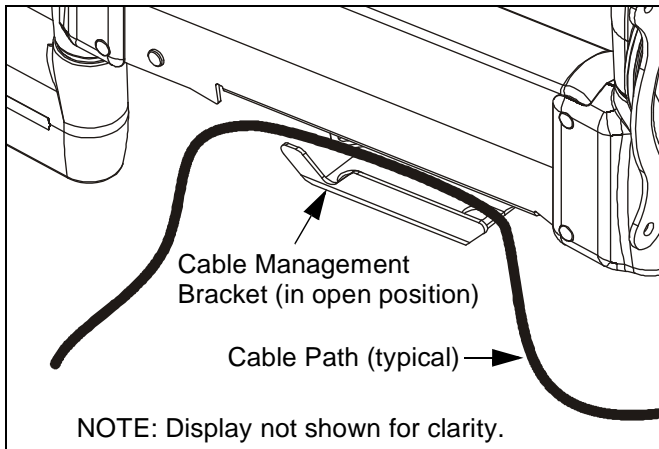

Figure 22: Height Adjustable Arm - Cable Path
- Carefully insert cables into bracket (See Figure 22).